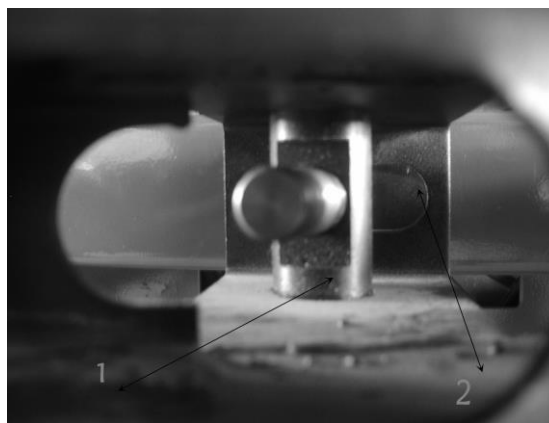

FIG 10
3.2.5 Position the bead breaking arm shaft bushing into the bead breaking support plate on the body (FIG 9-1) to align the hole and install the bead breaking bolt (FIG 9-2) and assemble the nut to lock (FIG 8-4) . Insert the piston rod (FIG10-2) through the hole of the bead breaking slide bushing (FIG10-1) . The surface of the slide bushing should be outwards (FIG 10) . Assemble the removed nut (FIG 8-1) into the front end of the piston rod. The nut will be assembled. The distance from the edge of the bead breaking blade to the bead breaking rubber is 30~40mm (FIG11) . Hang the spring. (FIG9-3)。